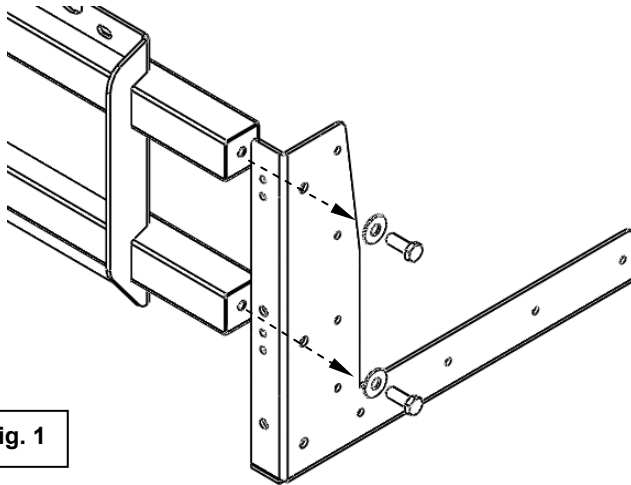

Fig. 1
1. Using (2) washers and (2) ¼"-28 bolts, assemble one of the side mount brackets to the back bracket as shown in Fig. 1. The bolts should be hand tightened only at this point. Repeat procedure to attach the other side mount bracket to the other end of the back bracket.